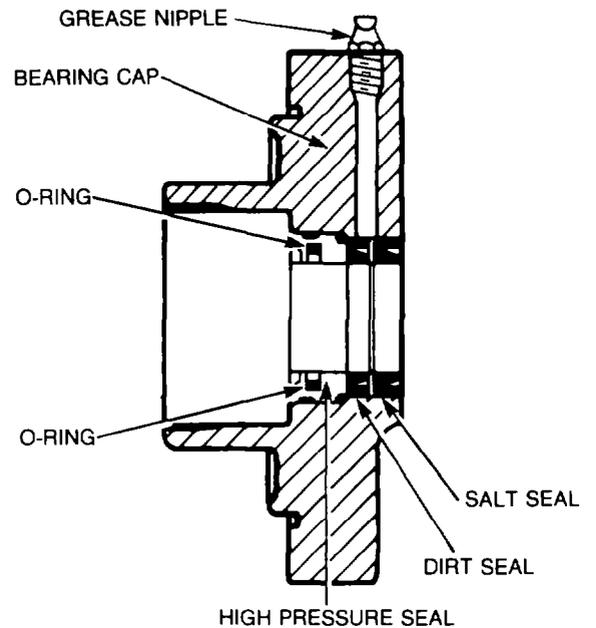

Figure 288 — High Pressure Seal — Installation
- g. Apply Loctite 569 to the seal seating surface and outer O-ring, then install the seal in the bearing cap until the seal seats against the shoulder (see Fig. 288).